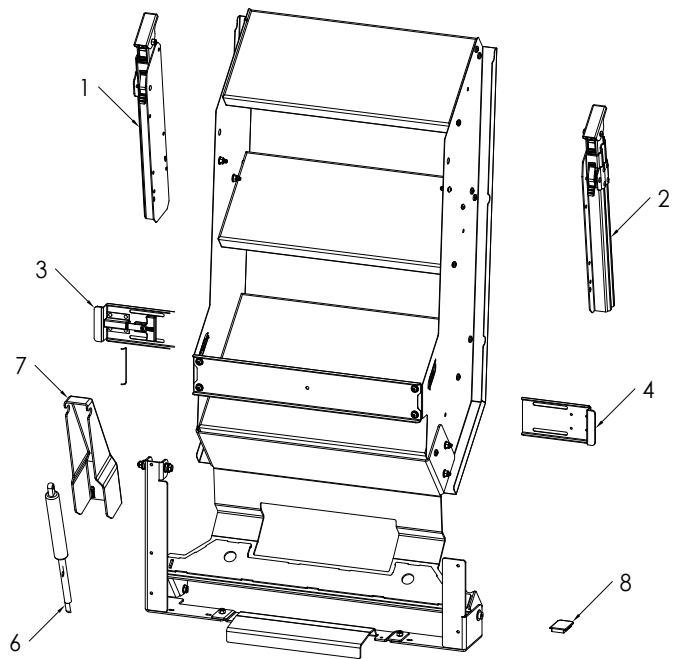

Figure 1
1. Open the RV entry door fully and set the stair assembly over the RV threshold as shown in **Figure 1**.
4. A total of twelve (12) #10x1¼ screws must be used to secure the product. Pan head, truss head or flat head screws are permissible to secure brackets to RV, but pan head or truss head screws can be useful in slotted holes to allow small adjustments of the product's position. Ensure screw head diameter of 5/16" or larger is used. Washers may also be used.
Adjust brackets by loosening bolts shown in **Figure 1**, sliding brackets in or out as needed and retightening bolts. The ideal adjustment is achieved when maximum surface area of each stop bracket bears on the door flanges and the slide latch actuates properly to prevent the staircase from unintentionally pulling free from the door flange.